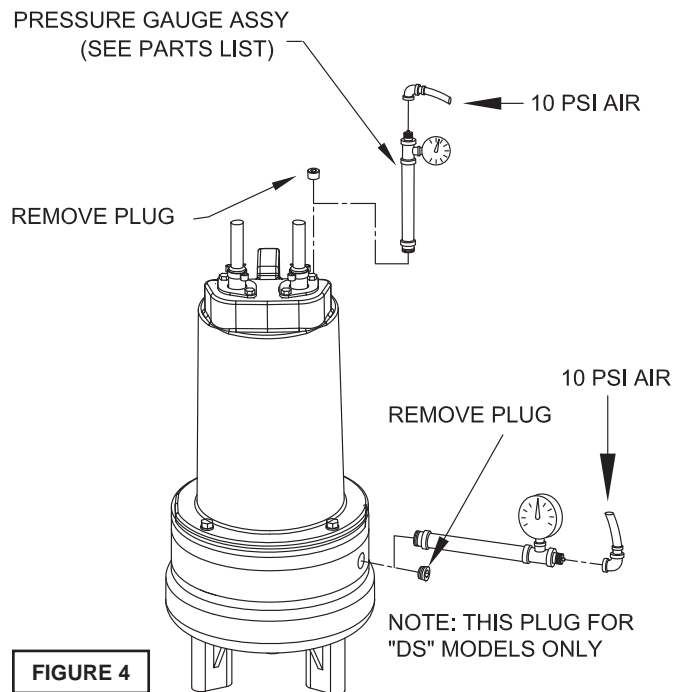

FIGURE 4
To clean out volute (1) or replace impeller (33), disconnect power, remove hex bolts (26), and lock washer (12), vertically lift motor and seal plate assembly from volute (1) and spacer ring (31), see Figure 4. Clean out body if necessary. Clean and examine impeller (33), for pitting or wear and replace if required, inspect gasket (36) and replace if cut or damaged. If the impeller (33) needs replacing, place a flat screwdriver in the slot of the end of the shaft to hold the shaft stationary while unscrewing the jam nut (66) and impeller (33).